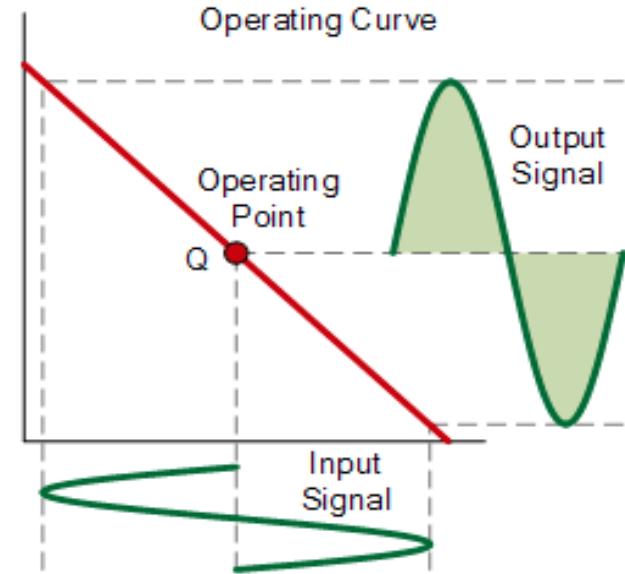

Figure 2
- The Output Characteristics for the Class-A Power Amplifier is shown in Figure 2: